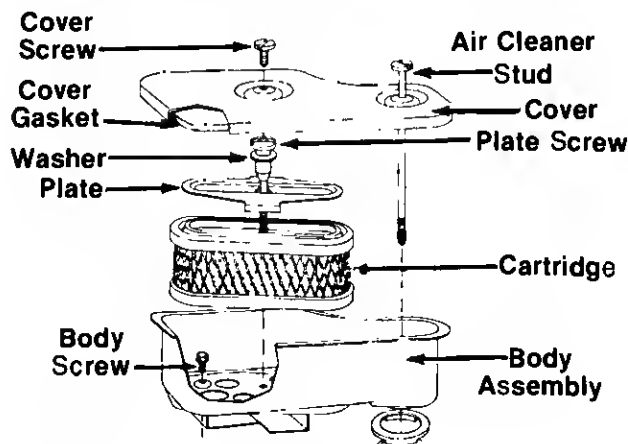

FIGURE 20.—11 H.P. Units
1. Remove air cleaner stud, screw and cover. See figure 20. Replace cover gasket if damaged.